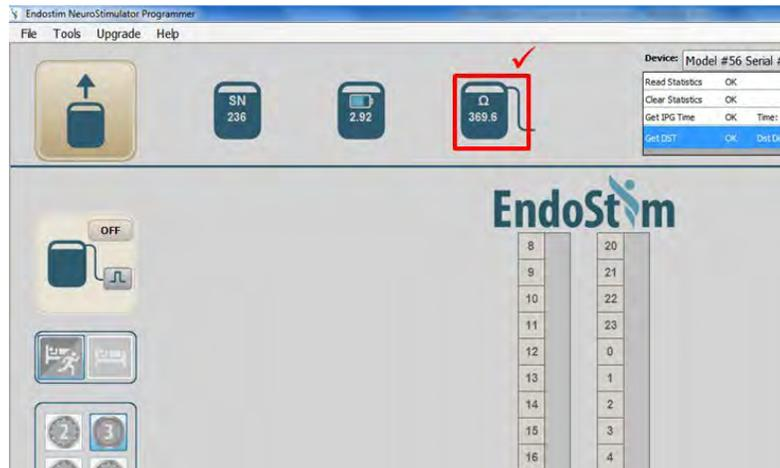

Figure 31 Day of Surgery – Measure Lead Impedance
3. Measure Lead Impedance 3 times (Click Interrogate icon) (Figure 31).
- b. If still out of range, perform Device Reset (Tools → Reset IPG) (Figure 31). Measure Impedance again.